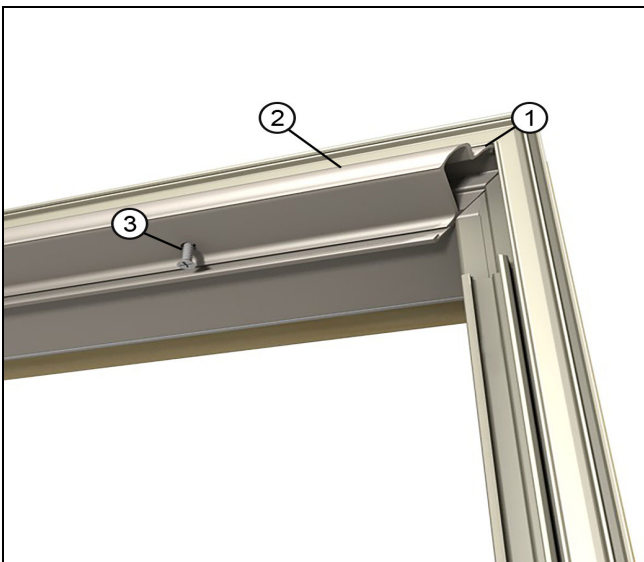

Figure 9 Side jamb z-bar removed for illustrative purposes
2. At the head jamb of the unit, measure the space between the side jamb z-bars and cut a 45° miter on the head jamb z-bar with the miter saw. See Figure 9. Place and center the head jamb z-bar at the unit head jamb between the side jambs. Using the head z-bar existing holes as a template drill a 1/8" (3) pilot holes into the head jamb. Secure the head z-bar to the head jamb with the following screws: